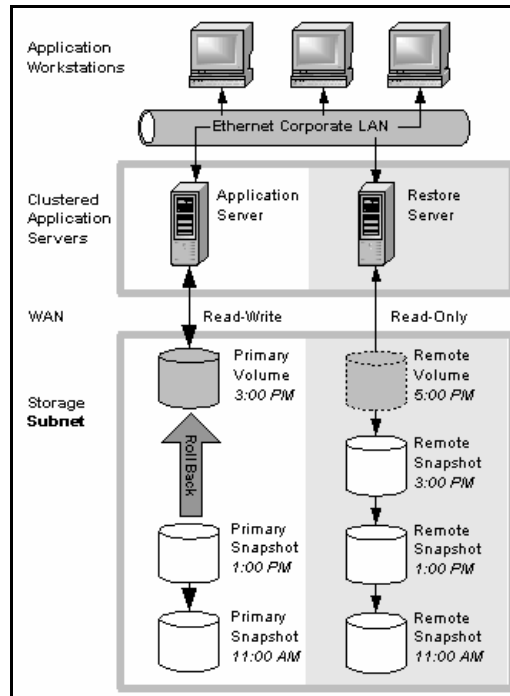

Figure 267. Non-destructive Rollback from the Primary Snapshot
- When you roll back the primary snapshot to a primary volume, any applications accessing the primary volume will no longer have access to the most current data (as the primary volume has been rolled back to a previous state). If the primary volume must be synchronized with other volumes accessed by the same application, consider rolling back the remote volume instead. Figure 267 shows rollback of the primary snapshot while leaving the remote snapshots intact.